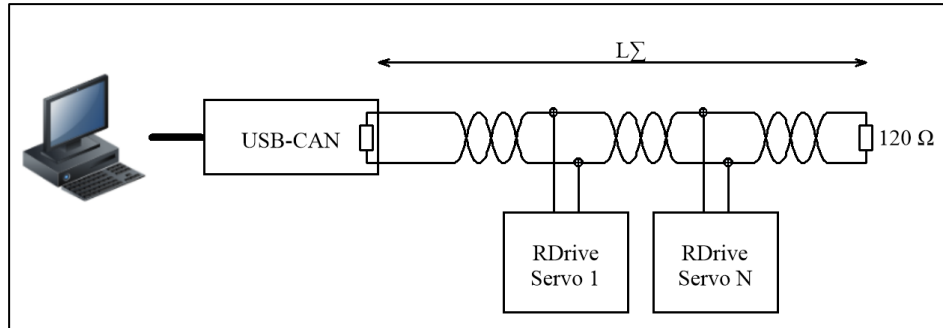
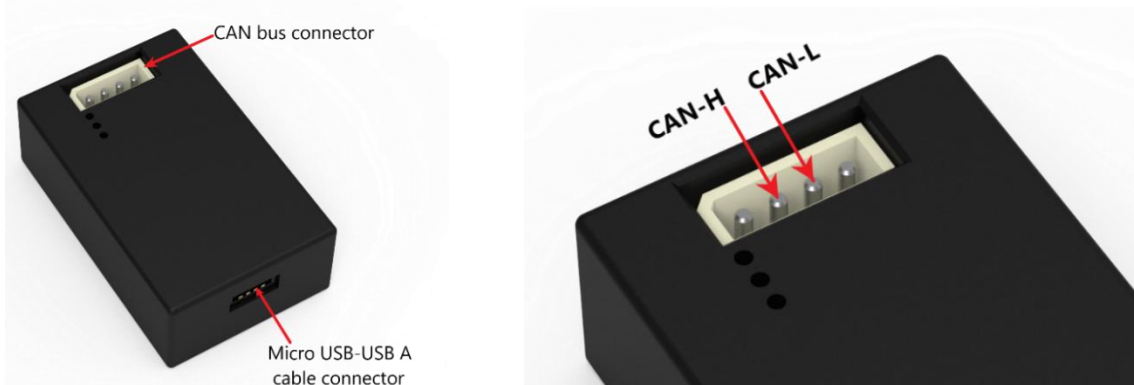

Figure 4-2: CAN-to-PC connection to control servos via API
Figure 4-3: Connectors on the USB-CAN dongle
- In case servo control is **via API**, provide a CAN-to-PC connection as shown in **Figure 4-2**.
The connection is in accordance with the diagram as shown in **Figure 4-2**, taking into consideration the arrangement of connectors on the USB-CAN dongle (see **Figure 4-3**). To provide the connection, use the cables on the input flange of the servo motor: the brown one corresponds to CAN_{HIGH}, and the blue one — to CAN_{LOW}.